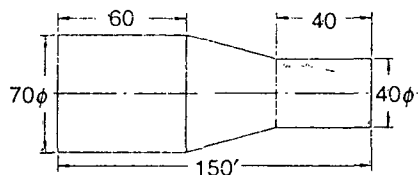

Fig.1
11. a) i) Write a CNC part programming using ISO G and M codes. Assume suitable spindle speed and feed rate for fig.1. (8)